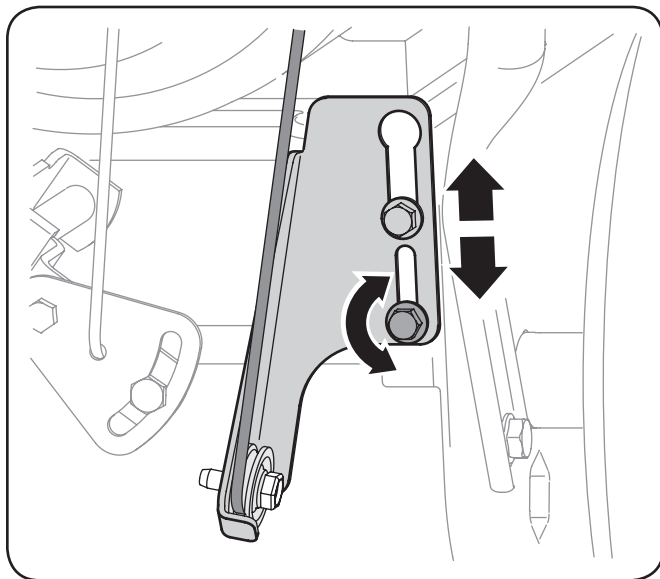

Figure 6-6
5. Loosen the lower hex nut on the drive cable bracket. See Fig. 6-6.